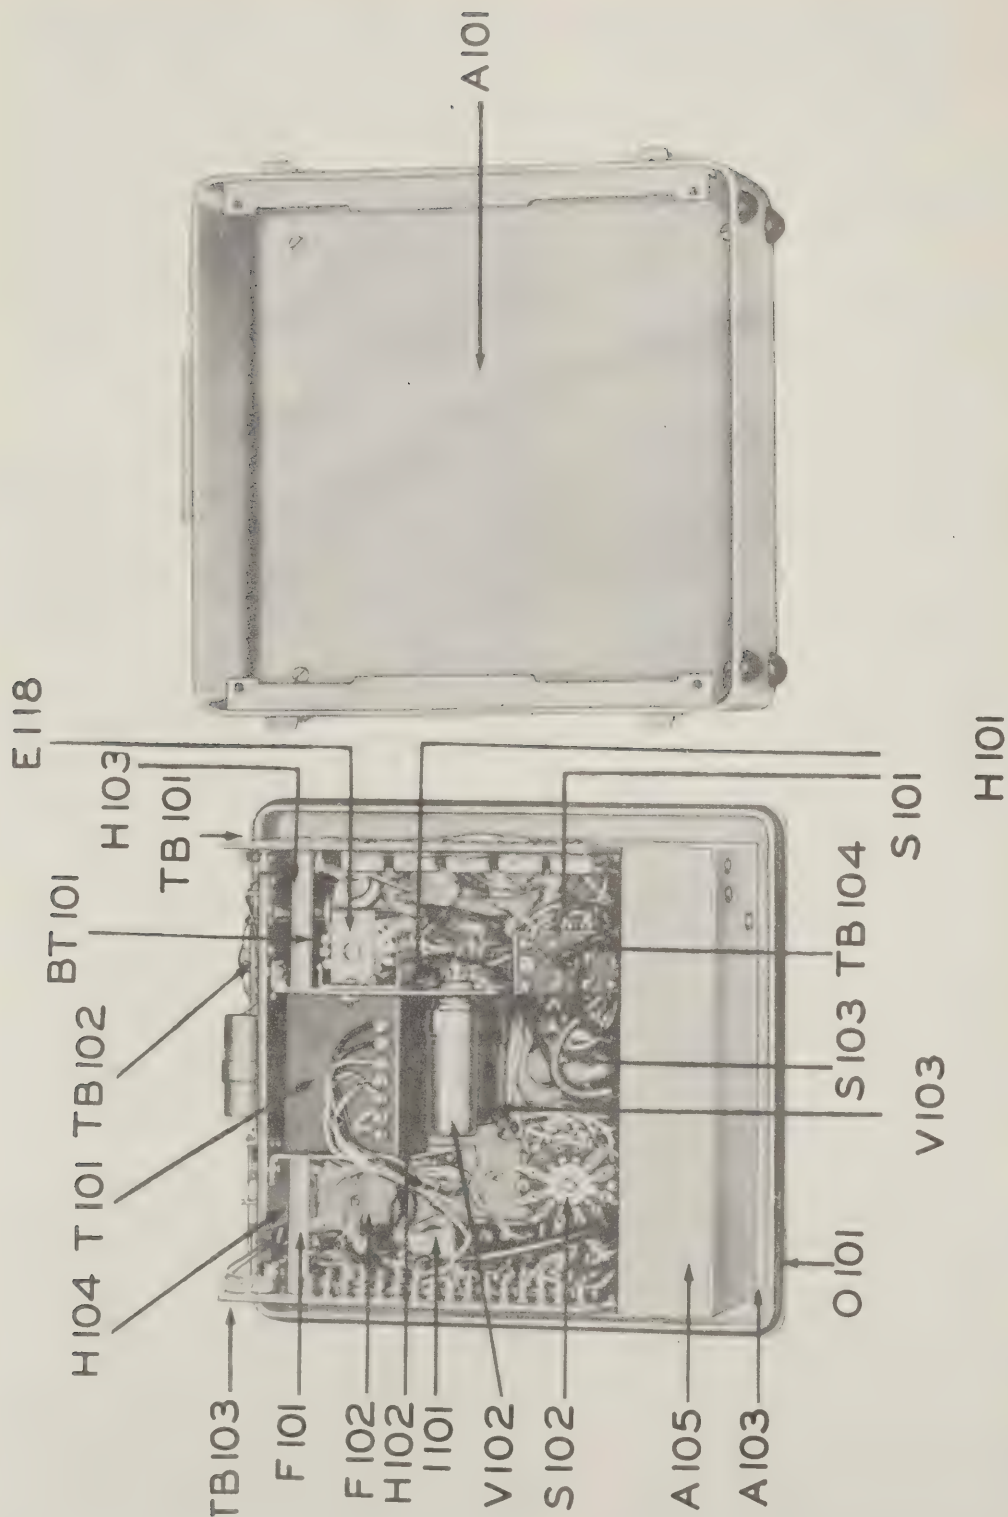

Figure 7-2. Rear View of Front Panel, Multimeter ME-25B/U.
Battery BT-101 is a JAN type BA-30 dry cell which is located inside the case of Multimeter ME-25B/U as shown in figure 7-2. When the case of the battery is discolored, or when it shows any other evidence of deterioration, replace it with a fresh cell. Figure 7-5 shows how the battery is held in the battery trough, which is part of chassis H-101. Spring contact E-117 presses against the base of the battery, which is its negative terminal. This contact is insulated from the chassis. Contact E-118 acts as the grounded connection for positive battery polarity, and is also a clamp which holds the battery in its trough. To remove the battery, loosen the screw which holds contact E-118 to chassis H-101, and turn contact E-118 until it clears the top of the battery case. Lift the old battery out of the trough. When you place the new battery in the trough, be sure to observe polarity: insert the bottom first until it presses against spring contact E-117. Then turn contact E-118 into position so its extruded contact point connects the small positive post in the center of the top of the battery. When E-118 presses against the post of the battery, it will also be in position to clamp the battery in its trough. Hold the terminal lug for the two black leads, which is also fastened in position with the screw through E-118 and H-101, while you tighten the screw again.
b. **REPLACEMENT OF TUBE V-102.**—Tube V-102 is a type 6X4 full wave rectifier in the power supply. It is located inside the case of Multimeter ME-25B/U as shown in figure 7-2. Remove the tube shield, E-111, from socket XV-102, and you will have access to the tube. After you have replaced it with a new tube, put shield E-111 back in place on socket XV-102.
c. **REPLACEMENT OF TUBE V-103.**—Tube V-103 is a type 6SN7GT dual triode. It is used as the bridge tube for all voltage and resistance measurements. It is located inside the case of Multimeter ME-25B/U as shown in figure 7-2. There is no tube shield over this tube, and you can remove and replace